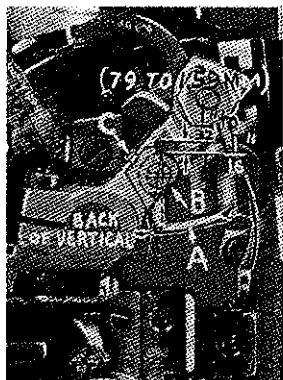

Fig. 7A
Insert upper spreader (A, Fig. 7A) in its holder. Screw (B) holds upper spreader in its holder and permits it to be pushed in or out, or turned around its shank. Insert upper spreader holder into upper spreader shaft (if not already in place). Screw (C) on the clamp holds the upper spreader holder in the shaft. Locate upper spreader in its holder so that the shank extends  $1/32$  to  $1/16$  inch (.79 to 1.59 mm) beyond holder (Fig. 7A).